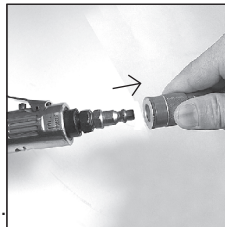

Figure 6
- Disconnect the tool from air supply. (See Figure 6)